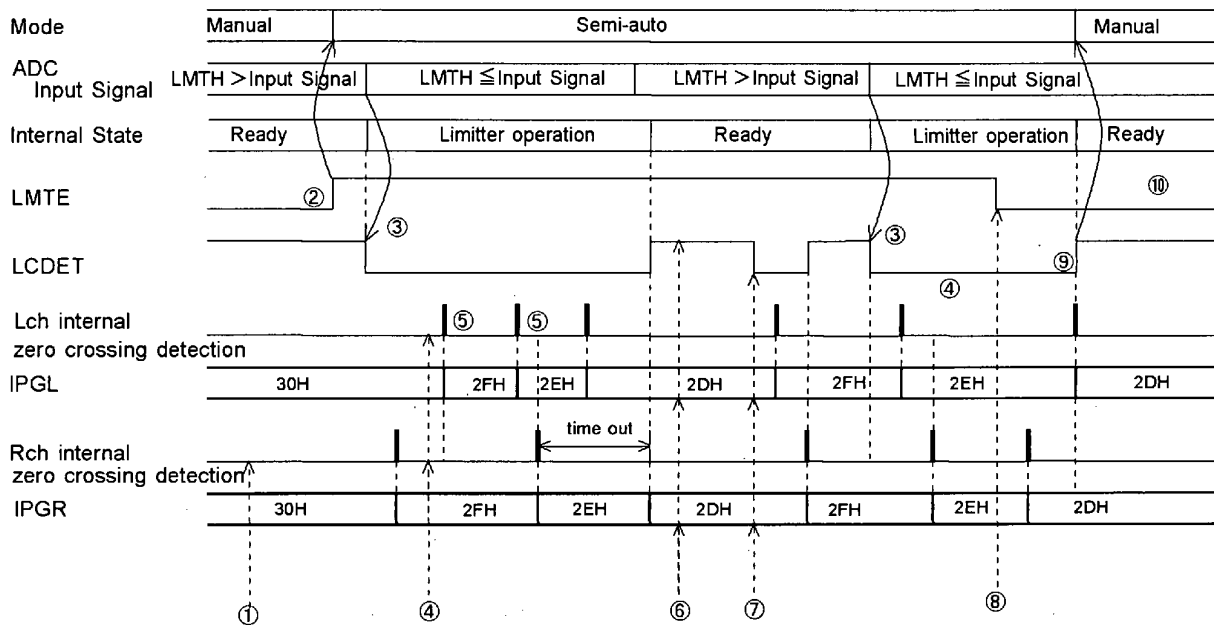

Figure 7 . Control example of semi-auto mode operation(LMAT = 1 step, ZENM=ZELM="1")
- ② WR(LMTE="1", RCVE="0"): After the registers concerned in the auto limiter operation is set up and confirming the zero crossing flags(ZFIPL,ZFIPR)="1", LMTE is set "1".
- ③ As the input signal of ADC exceeds LMTH, the auto limiter operation starts.
- ④ WR(IPGA="31H"):As the auto limiter is in operation, writing by uP is ignored.
- ⑤ After the zero crossing operation of both Lch and Rch is completed, the next operation starts.
- ⑥ RD(LCDET&IPGA):Confirm to complete auto limiter operation and reads the IPGA present value.
- ⑦ WR(IPGA="2FH"):Update IPGA value.
- ⑧ WR(LMTE="0")
- ⑨ In Figure 7 , since "0" is written to LMTE during ATT operation, the operation changes to manual mode after completing ATT operation. After confirming LCDET="1", it is possible to change the each register set-up. If LMTE is set "0" during the auto limiter operation or the update of the IPGA value by uP, LCDET becomes "1" after the max "1" ATT/GAIN operation is completed by internal state.
- ⑩ In this case, the input signal of ADC exceeds LMTH, the auto limiter does not operate because of LMTE="0".